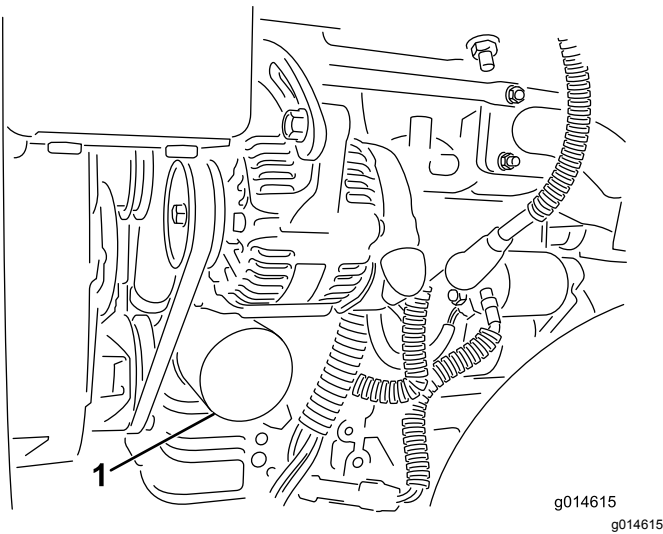

Figure 43
2. Remove the oil filter (Figure 43). Apply a light coat of clean oil to the new filter gasket.